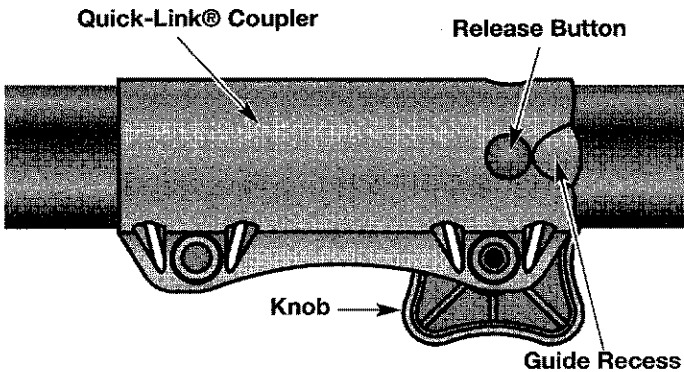

Fig. 24
1. Turn the knob counterclockwise to loosen (Fig. 24).
2. Press and hold the release button (Fig. 24).
1. Turn knob counterclockwise to loosen (Fig. 24).
**NOTE:** Aligning the release button with the guide recess will help installation (Fig. 24).